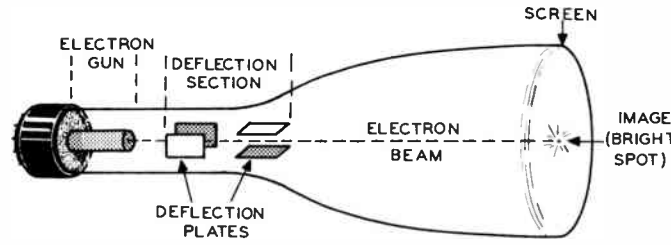

FIGURE 1
30. The electron gun used in most electrostatic crt's (Figure 1) has two anodes. One anode is used to focus the beam and the other anode is used to accelerate the beam. The electron gun in an electromagnetic crt such as that of Figure 9 has only an accelerating anode. An external coil mounted around the tube neck is used to focus the electron beam.